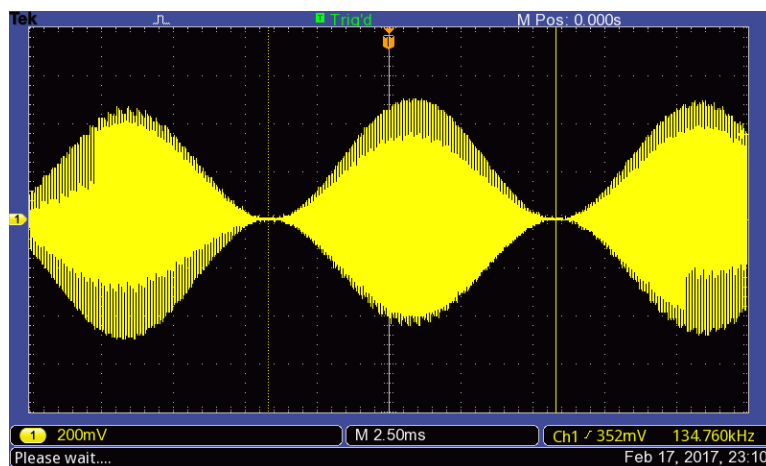

Figure 8: 820 kHz, 1 Vpp with 100Hz A.M. Modulation
- Set the oscilloscope to 200 mVpp and 2.50ms. See figure 8.